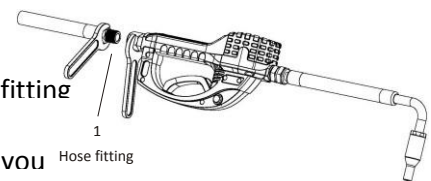

FIG. 2
2. Apply thread sealant to the male threads of the hose fitting. Thread the hose fitting into the swivel (1) and tighten firmly (FIG. 2)